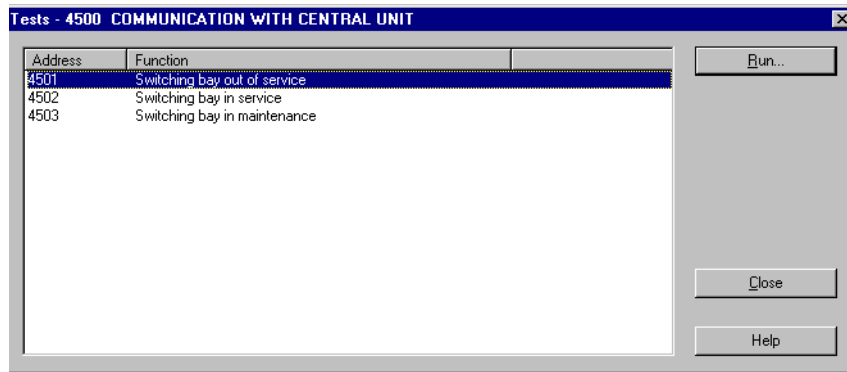

Figure 6-31 Window Test - 4500 COMMUNICATION WITH CENTRAL UNIT
- Click the entry **COMMUNICATION WITH CENTRAL UNIT** and then click **Run....**. The window "Test - 4500 COMMUNICATION WITH CENTRAL UNIT" opens (Figure 6-31, page 276).
- Click the entry **COMMUNICATION WITH CENTRAL UNIT** and then click **Run....** The window Test - 4500 COMMUNICATION WITH CENTRAL UNIT opens (Figure 6-31, page 276).